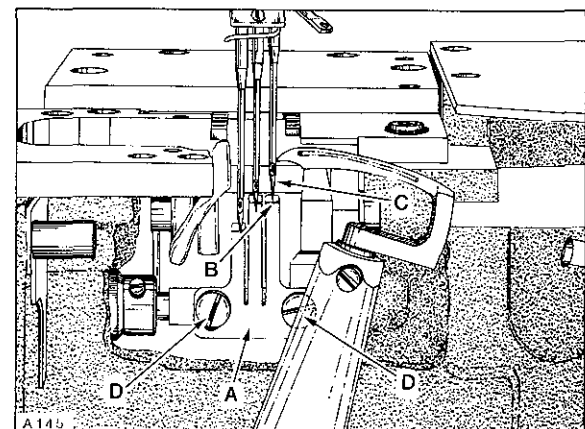

Fig. 15
As the looper travels from right to left, position its point even with the right side of right needle. At this time, the height of needle guard (A, Fig. 15) should be positioned so the lower edge of its guarding surface (B) is even with the TIP of RIGHT needle (C).